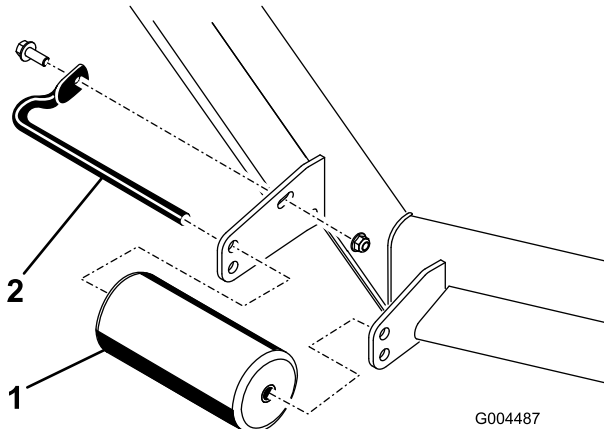

Figure 26
4. Remove the fasteners securing each roller on your mower deck and move the rollers up or down as desired; refer to Figure 26 through Figure 30 as applicable for your mower.